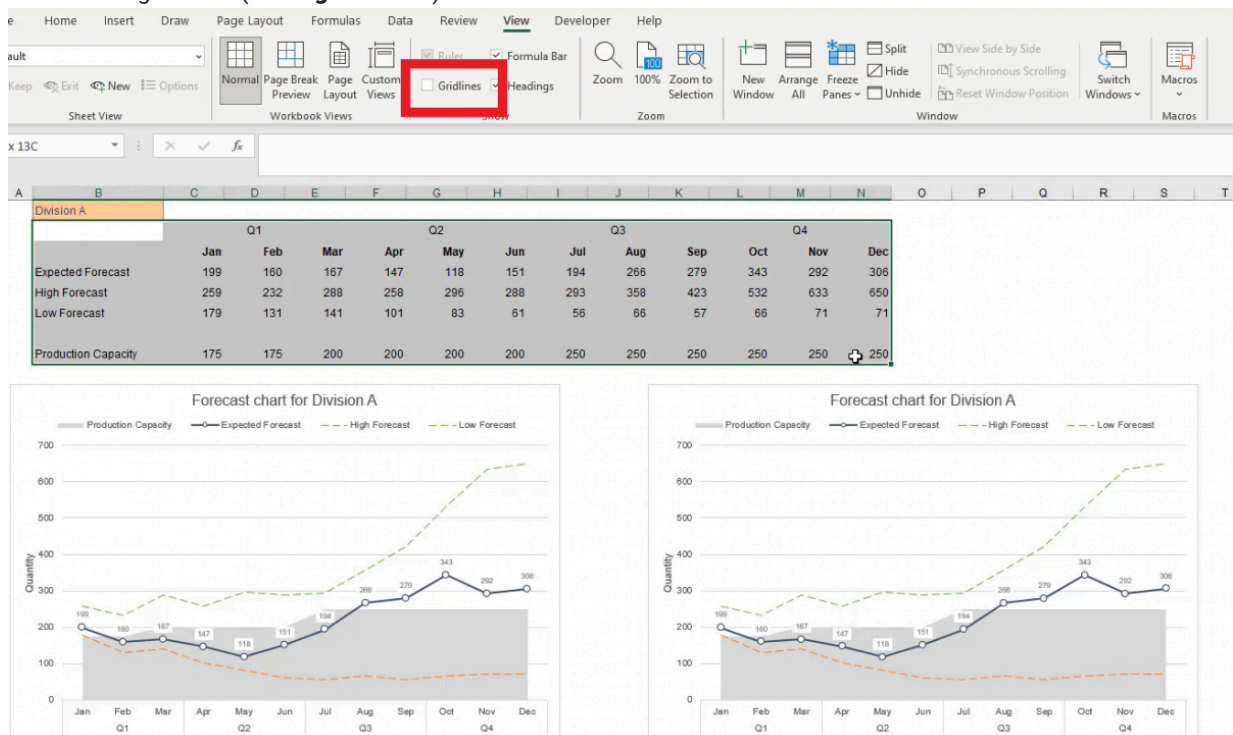

Figure 37.28
5. Turn off the gridlines. (See **Figure 37.28**)